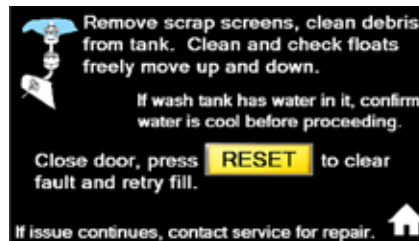

Fig. 101a - Follow instructions on screen
2. Press the  icon and an instruction screen appears. Follow the instructions and press RESET, (Fig. 101a).